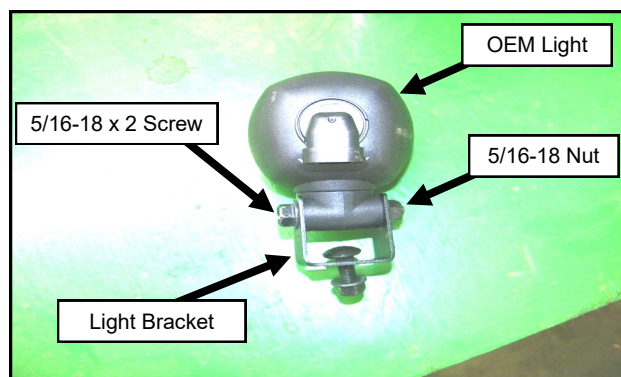

Fig. 17.3 (Pre-Assemble OEM Fender Lights)
- 17.3** If equipped, pre-assemble the light brackets onto the OEM fender lights. See Figure 17.3. The carriage screw must be preinstalled in the bracket before the light is mounted for clearance purposes.